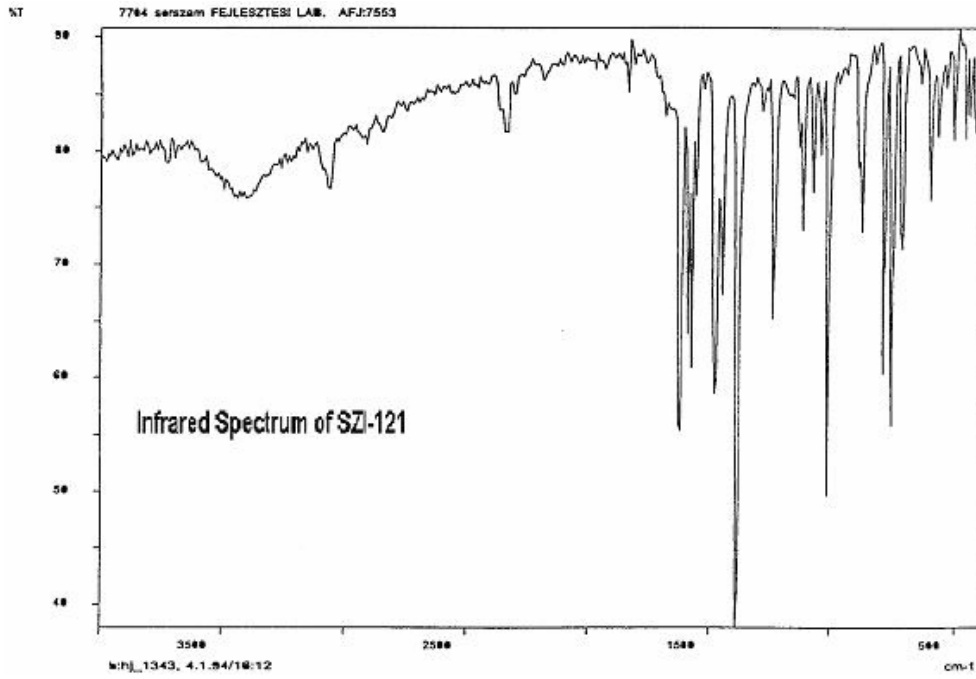

Fig. 24 IR spectrum of diflovidazin
2.2 Infrared. Prepare potassium bromide discs from the technical sample and from diflovidazin standard. The spectrum obtained from the sample should not differ significantly from that of the standard. (Fig. 24)